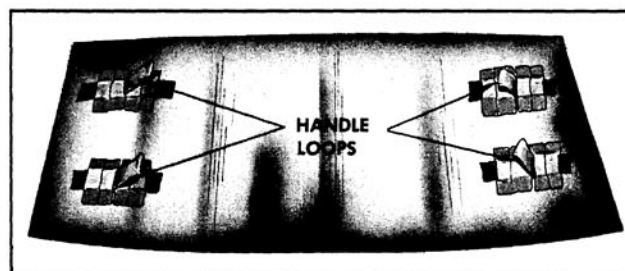

Fig. 16-467 Tape Handles
5. Attach glass handling suction cups to outside surface of glass to enable lifting glass into opening. If suction cups are not available, make tape handles from pieces of 2-1/2" cloth body tape as described below and illustrated in Fig. 16-467.
- c. Apply four 8" pieces of 2-1/2" cloth tape vertically over "handle" previously applied, two pieces on each side of handle loop. (Fig. 16-467)